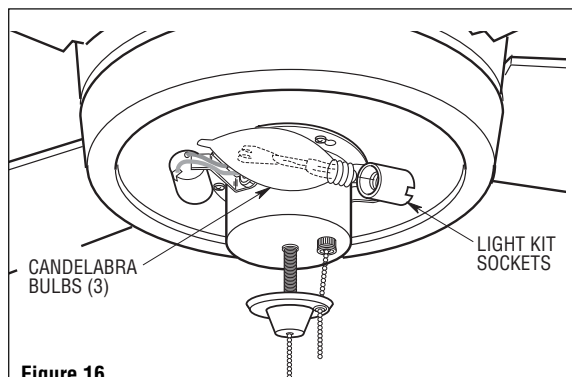

Figure 16
1. Screw three candelabra bulbs into the light kit assembly sockets (Figure 16).